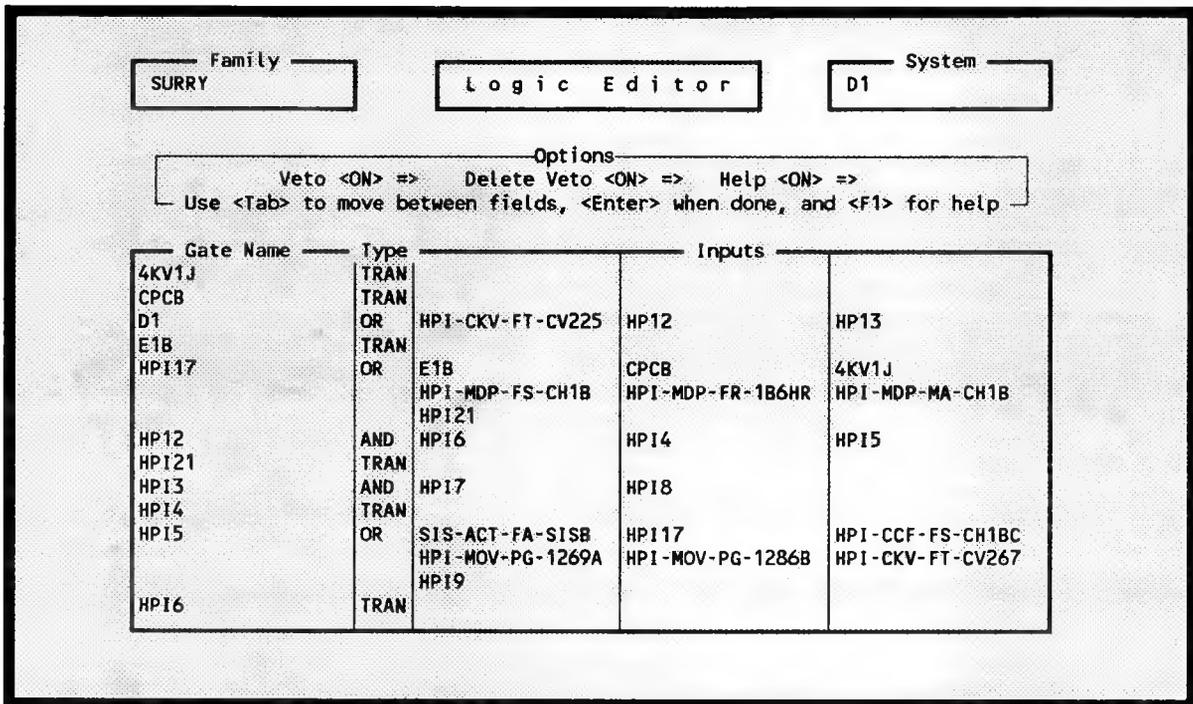

Figure 123. Set veto options screen.
5.6.2.11 Options. This option allows you to set the veto options. When you invoke this option, Figure 123 will be displayed. The following options may be set: